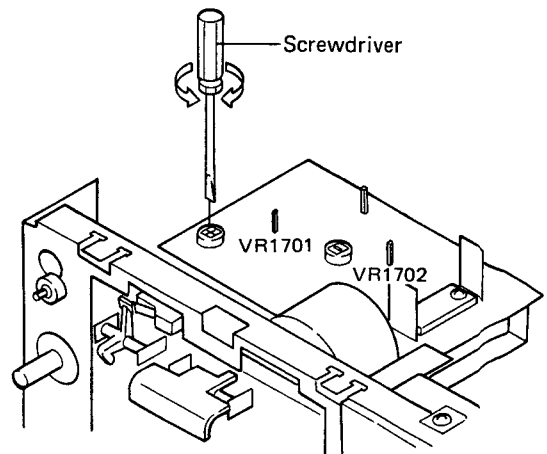

Fig. 9-4 Pitch control, center click position speed adjustment
4. Adjust VR1701 of the D.D. motor control assembly so that the difference between tape speed with the quartz lock OFF is not more than $\pm 6\text{Hz}$ different from the quartz lock ON tape speed (Fig. 9-4).